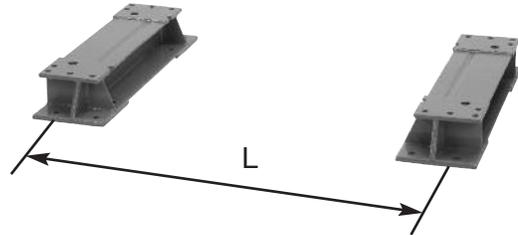
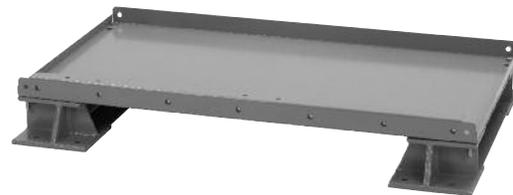

FIGURE 1
FIGURE 2
2. Refer to Figure 1 and Table 7.1 to determine the anchor spacing. The top module weldment can also be used to position the base beams, loosely bolt the top module weldment to the base beams. See Figure 2.
3. Mark the floor with the location of the floor anchors. All holes are to be used when anchoring to the floor. Dimension "L" in Figure 1 is to the outermost set of holes.